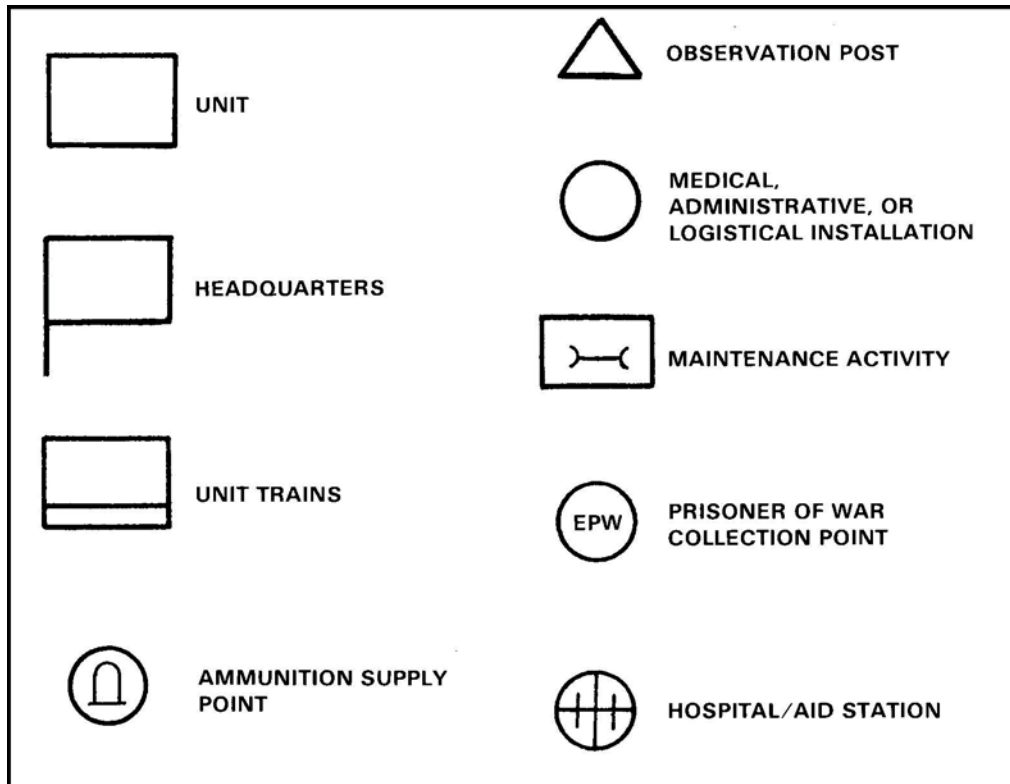

Figure 2. Basic symbols.
- a. Basic symbols (Figure 2).